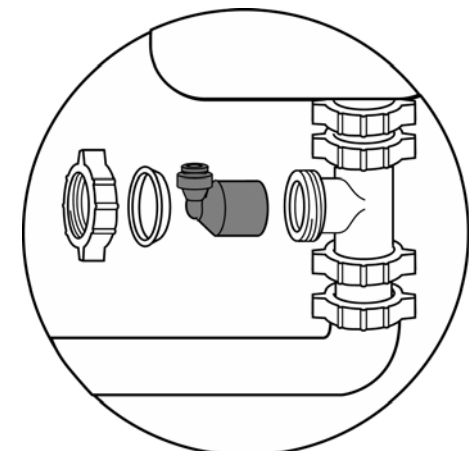

Figure 6.4
7. Rotate outlet side of 3-Way Repair Tee to face towards Air Gap Faucet. Firmly tighten top and bottom Slip Joint Wing Nuts (Figure 6.4).
8. Insert Push-In Connector Elbow into side outlet of 3-Way Repair Tee. Orient Push-In Connector Elbow opening upward towards Air Gap Faucet and tighten elbow Slip Joint Beveled Washer and Wing Nut (Figure 6.4).